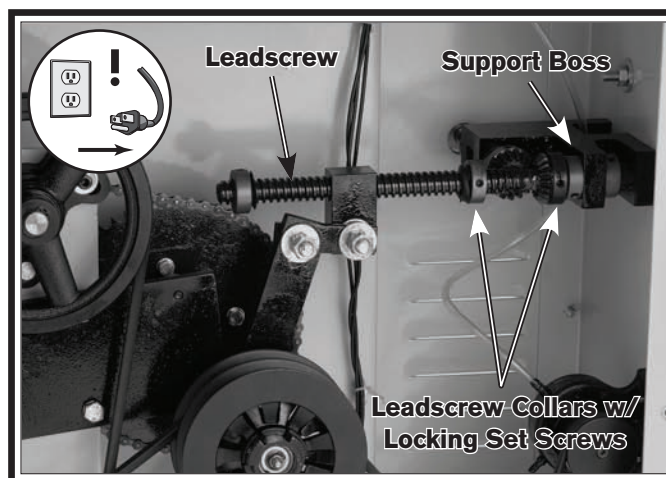

Figure 51. Leadscrew adjustment locations.
2. Remove the rear lower access panel, and use a 4mm hex wrench to loosen both collar locking set screws just enough to adjust the collars (see **Figure 51**).
3. Slide the right-hand leadscrew collar against the support boss and tighten the set screws. If excess backlash still exists at the handwheel, you may have to readjust the bevel gear lash, replace the leadscrew half nut, or replace worn bolts or linkage (see **Figure 51**).